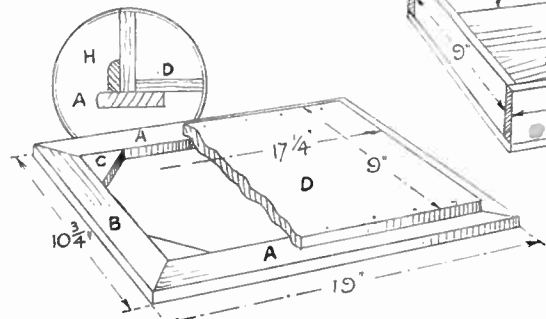
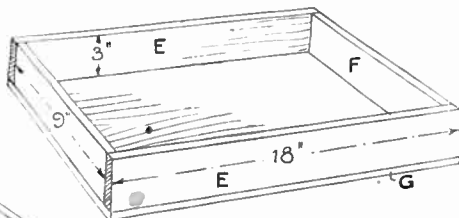
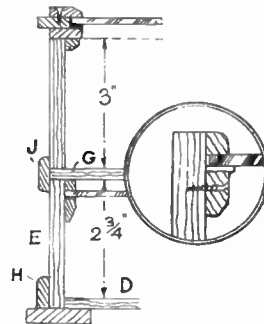

Fig. 2 - Details of floor and base construction
Fig. 3 - Framework of the case
Fig. 4 - Section at end
The base of the lower case should first be set out and made, and in Fig. 2 this is shown with also a section of the floor screwed to it. Cut two pieces as (A) and two pieces as (B) all to length shown, by  $1\frac{1}{2}$  ins. wide by  $\frac{3}{8}$  in. thick. Cut the mitres to 40 degrees on all the ends using a set
As both cases are identical in size, four rails 18 ins. by 3 ins., and four rails 9 ins. by 3 ins. and all  $\frac{3}{8}$  in. thick may be cut and framed together as shown in Fig. 3. This illustration shows the upper case with floor (G) attached and flush with the sides and ends all round. The lower case, however, will not of course have a floor this being already supplied as (D) in Fig. 2.
To strengthen the base, as well as to add to the appearance, a member as (H) in the enlarged diagram in Fig. 2 is added all round and mitred at the corners. The four pieces are  $\frac{3}{4}$  in. by  $\frac{1}{4}$  in. in section and are glued in place. This member is seen again in the cross section through one side at Fig. 4.
be added, and these are  $\frac{1}{2}$  in. by  $\frac{1}{4}$  in. in section and are glued and screwed at a distance of  $\frac{1}{2}$  in. down from the top edge of the case, as seen again in detail in the enlarged view in Fig. 4. On these fillets will be glued strips of washleather or felt to form a bedding for the sheet of glass, the size of which should be taken direct from the made-up case.
form of an open frame. Each side of it is made up of three strips of  $\frac{1}{4}$  in. thick wood glued or screwed together. A detailed corner view of the frame is shown in Fig. 4, with an enlarged sectional detail in the circle.
To the inside edges of the glass framing, fillets  $\frac{3}{8}$  in. by  $\frac{1}{4}$  in. with chamfered edges will be attached to hold the frame properly and rigidly in place, see the enlarged detail Fig. 4. Glass of about 21oz. will be used for both top and lower case, the top glass again being bedded on either felt or washleather as shown.
This completes the making of the show cases, which can be lined and finished as previously suggested. To hold the cases together a fillet strip (J) is put round at the junction as seen in Fig. 4. The strips are  $\frac{3}{8}$  in. wide and  $\frac{1}{4}$  in. thick and they are mitred at the angles of the top case and glued and pinned to it.